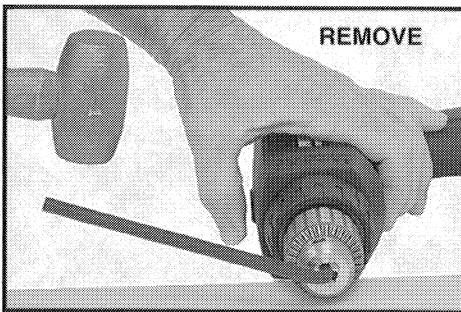

Fig. 9
5. Place the short end of a large allen wrench ( $\frac{1}{4}$ " or larger) into the chuck. Align wrench flats with chuck jaws and tighten chuck securely. While supporting chuck on a solid surface, position allen wrench to left (see Fig. 9) and strike wrench a sharp blow with a hammer to loosen chuck. Turn chuck counterclockwise to remove.